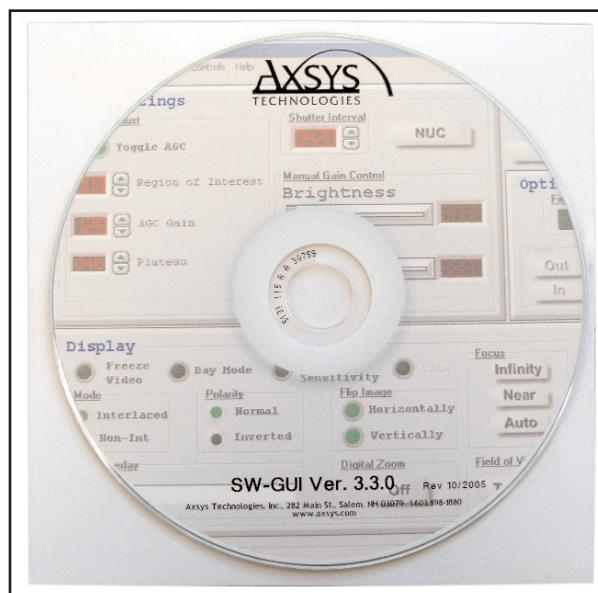

Figure 8-3. Software CD
1. Insert the software CD (Figure 8-3) into the CD drive of the PC (typically drive D).